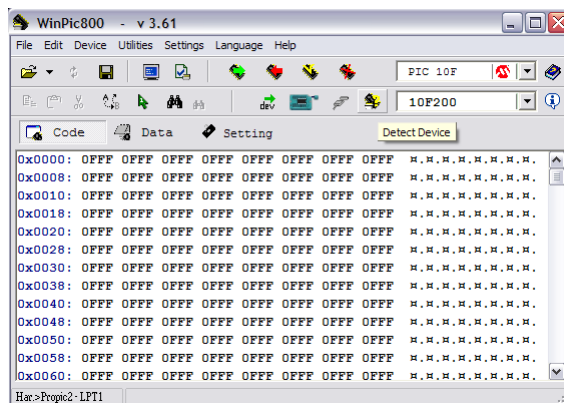
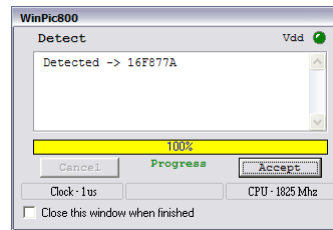

Figure 9: Detect device button
Figure 10: Message for successful detection of PIC16F877A.
5. ¹Select the appropriate microcontroller from device menu if it is not selected or just click the *Detect Device* button in the tool bar (Figure 9) to automatically detect the device on the board. After clicking the button, you will get the message shown in Figure 10 if everything is fine.